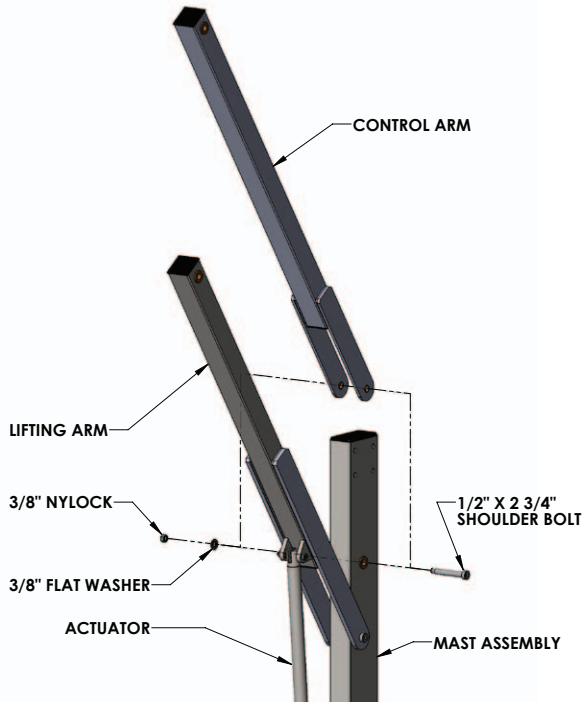

FIGURE 6
**5.** Connect the control arm to the mast using the 1/2 inch shoulder bolt and 3/8 inch nylock and flat washer, as shown in FIGURE 6. Careful not to scratch the control arm on the lifting arm while attaching.